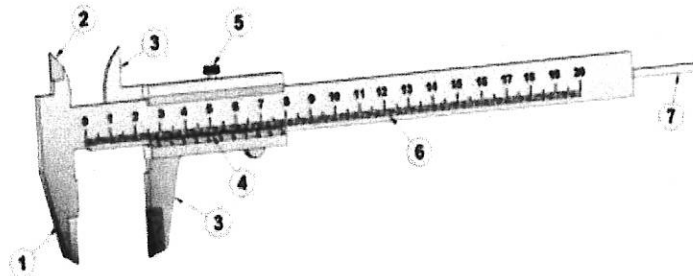

Figure 1/Rajah 1
- (a) (i) Name the parts of a vernier caliper below in figure 1.